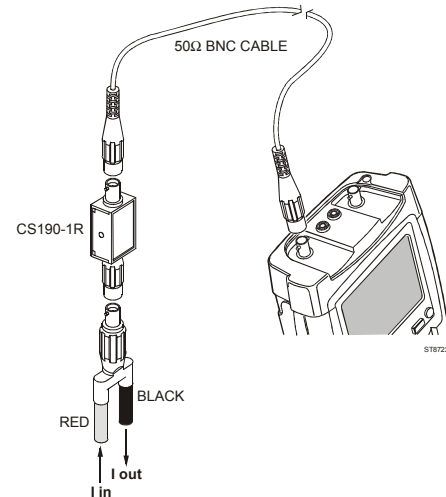

Figure 2-1. mAs measurement
- CS 190-1R, 1 Ohm current shunt for sensitive current and mAs measurements. (Max. 500 mA) . See Fig. 2-1.
- 1** Connect the current shunt CS190-1R to input A using the BNC cable (see Figure 2-1)
- 2** Connect the current shunt resistor CS 190-1R to the current source using the BNC to banana adapter (see Figure 2-1)